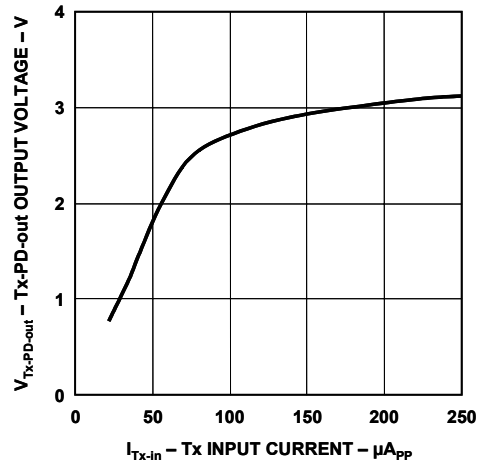
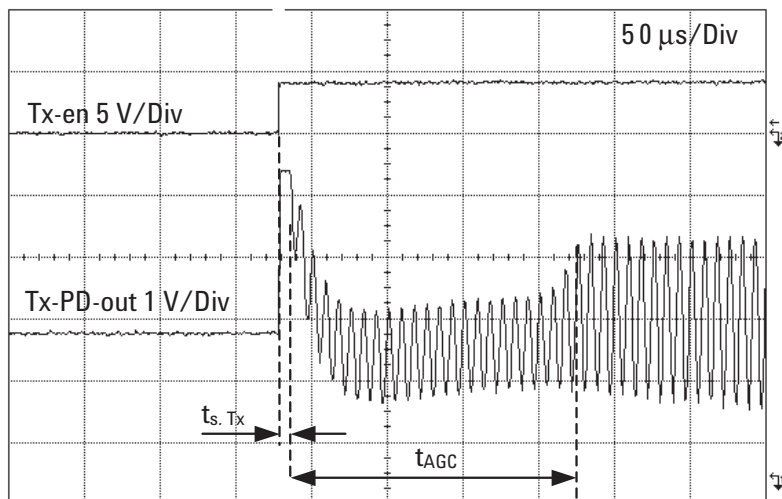

Figure 8. Tx-PD-out output voltage vs. Tx-in input current.
Figure 26. Tx-PD-out AGC response time.
- Time from transmit is enabled ( $V_{Tx-en}$  is set to logic high) until output (Tx-PD-out) is available. See Figure 26 in the Application Information section.
- Time from output (Tx-PD-out) is available until Tx-PD-out signal reaches 66% of its steady state level. See Figure 26 in the Application Information section.
variations in the optical channel over temperature and time. The Tx-PD-out output signal is effectively stabilized for input Tx-in signals of between  $150 \mu\text{A}_{\text{PP}}$  and  $250 \mu\text{A}_{\text{PP}}$  (see Figure 8). The AGC circuit starts to function 10 μs after the Tx-en signal is set to logic high. After a period of 180 μs the Tx-PD-out signal typically reaches 66% of its steady state level (see Figure 26). To ensure correct operation of the internal circuitry, an external 1 μF capacitor needs to be connected from pin 11 to GND2.